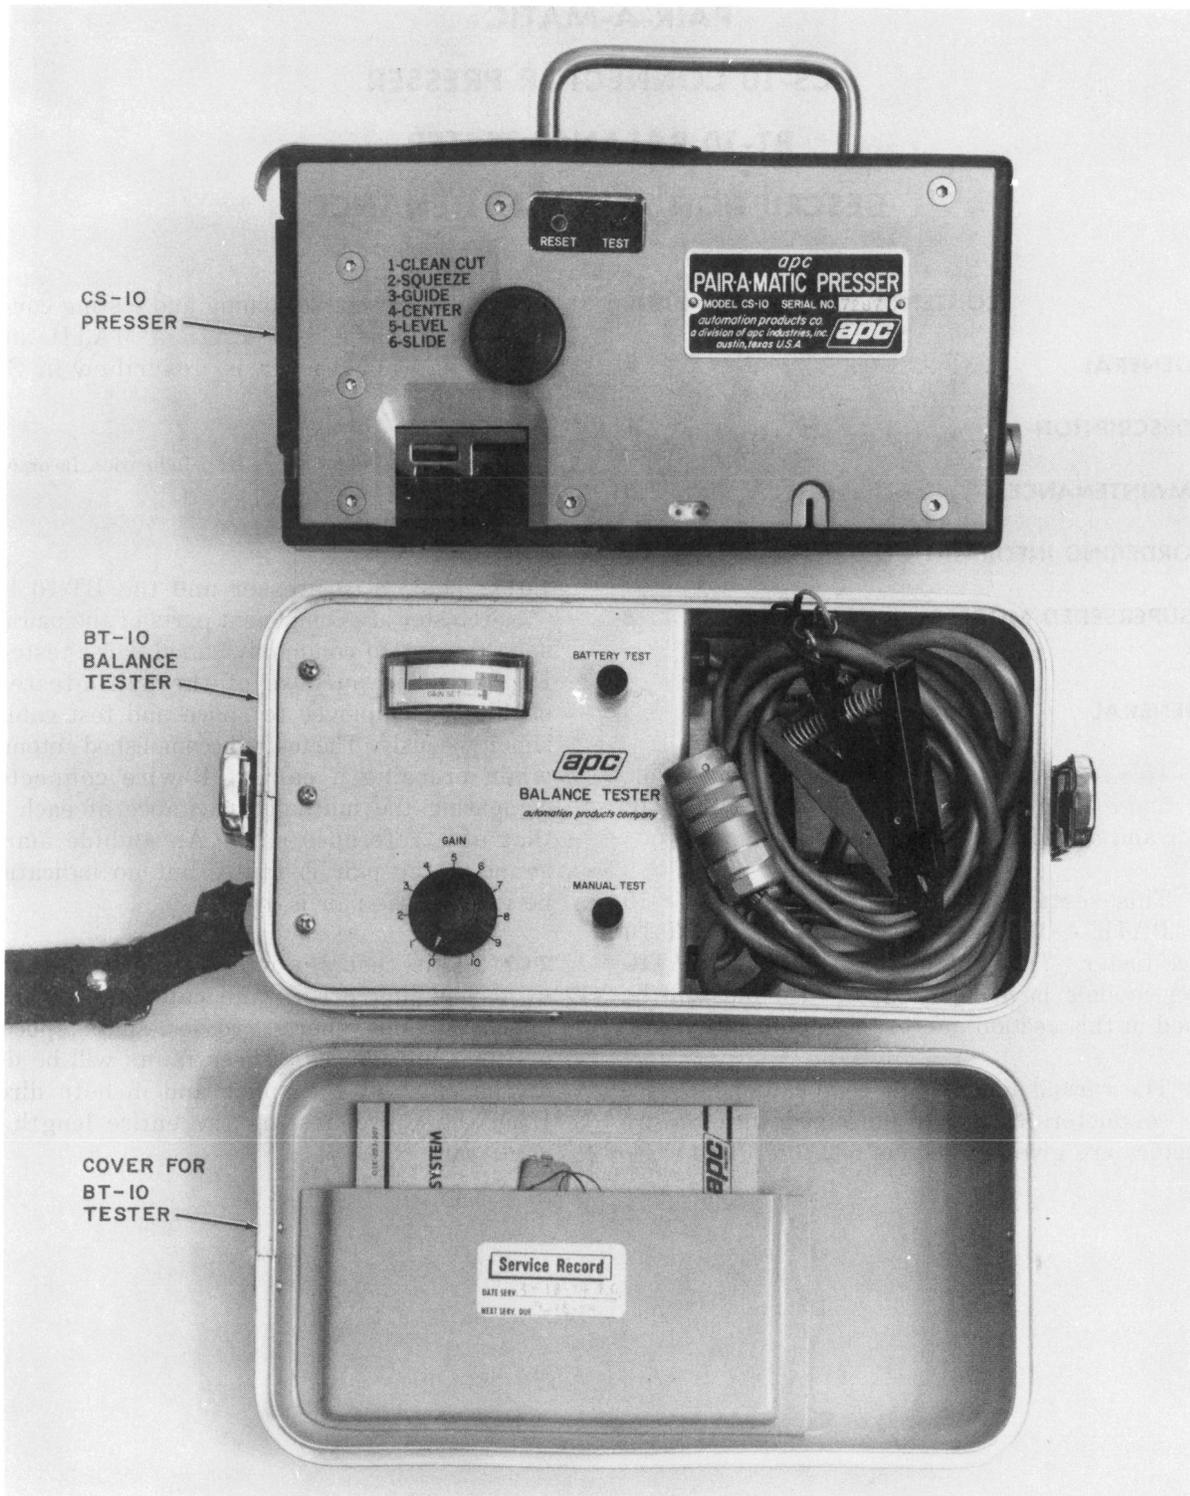

Fig. 1—PAIR-A-MATIC Splicing System
2.01 The CS-10 presser and the BT-10 balance tester are component parts of the pair-a-tester splicing system commonly called pair-a-tester. (See Fig. 1.) The purpose of the pair-a-tester is to enable the employee to splice and test cable pairs simultaneously. The test is accomplished automatically when pressing a pair of B wire connectors by comparing the mutual capacitance of each pair to that of a reference pair. An audible alarm will sound if the pair is faulty but no indication will be given if the pair is good.